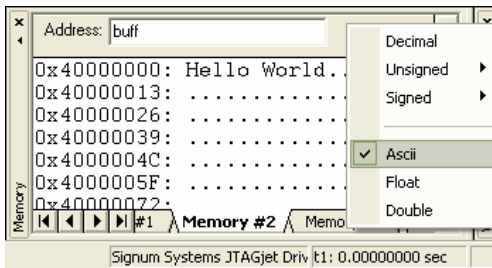

FIGURE 35 The buffer `buff[]` displayed in ASCII format with the string “Hello World” in it.
6. From the View menu, open the Memory window. The window appears at the bottom of the main IDE window. Set the address of the Memory window to „`buff`” (global variable). This will position the window to show the memory area occupied by the `buff[]` variable, i.e., at address `0x40000000`. The buffer should be filled with zeros (Figure 35). The same variable can also be inspected in the Watch window.